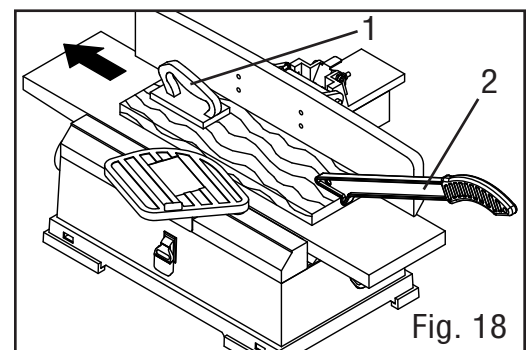

Fig. 18
3. As your trailing hand passes over the cutterhead, remove your leading hand and place behind your trailing hand and repeat until the entire length of the workpiece has been cut. Use a push block (Fig. 18 - 1) and a push stick (Fig. 18 - 2) to hold and feed the workpiece when jointing wood that is narrower than 3 inches or thinner than 3 inches